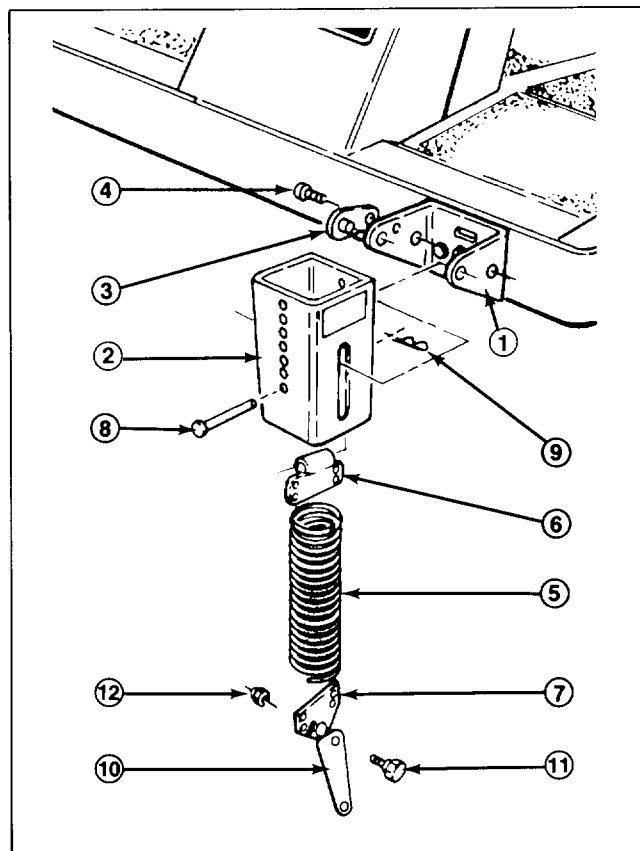

Figure 7
3. Thread the top extension spring coil into the top spring end holes and the bottom extension spring coil into the bottom spring end holes (Fig. 7).
4. Mount knee link to lower spring end with wide part of knee link pointing forward and spring end stop pointing forward. Secure knee link to outer side of spring end with a shoulder bolt and locknut (Fig. 7, 8).
6. Align slotted holes in the spring cover (slot toward the bottom) with the mounting bracket holes. Insert lock pin assemblies into the bracket holes and secure each to the bracket with self-tapping screws (Fig. 7). Torque the screws to 20 ft-lb.
7. From the bottom, insert the spring and top spring end into the spring cover. Select a hole that matches the cutter deck height-of-cut hole setting; i.e., top cover hole matches highest height setting, bottom cover hole the lowest, etc. Align the top spring end hole with the selected spring cover holes and insert the clevis pin to secure the spring inside the cover (Fig. 7). Secure the clevis pin with the hair pin cotter (Fig. 7).